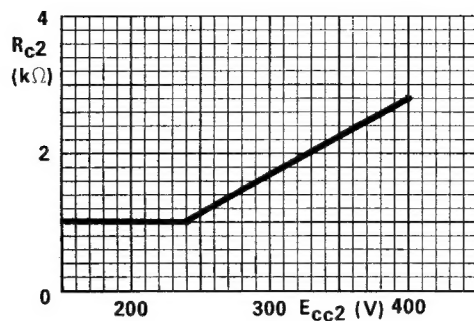

Figure 1
- ▲ To prevent an excessive value of P_{c2} the minimum R_{c2} values are given in Figure 1.
Note: R_{c2} minimum for 400 V screen grid supply is 2.9 k Ω (see Figure 1).
Note: R_{c2} minimum for 350 V screen grid supply is 2.2 k Ω (see Figure 1)
Note: R_{c2} minimum for 280 V screen grid supply is 1.4 k Ω (see Figure 1)